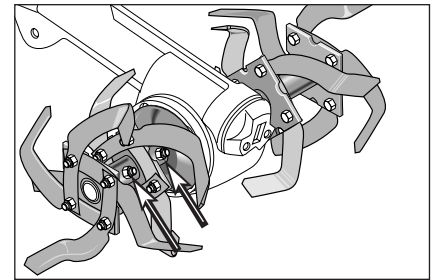

Figure 5-3A: Tine holder hardware must be tight.
7. Check the four bolts and nuts securing left and right tine holders to the tine shaft (Figure 5-3A).